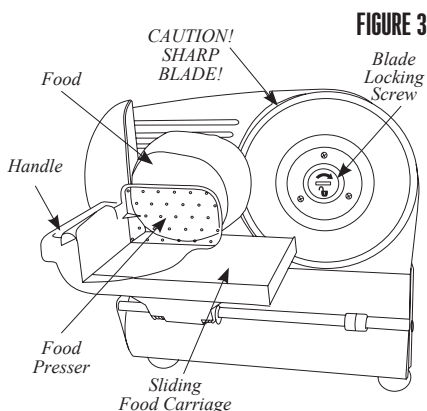

FIGURE 3
4. Place food on to the Sliding Food Carriage between the Gauge Plate and the Food Presser. To avoid danger of injury, ALWAYS use the Food Carriage and Food Presser while slicing. (FIGURE 3)